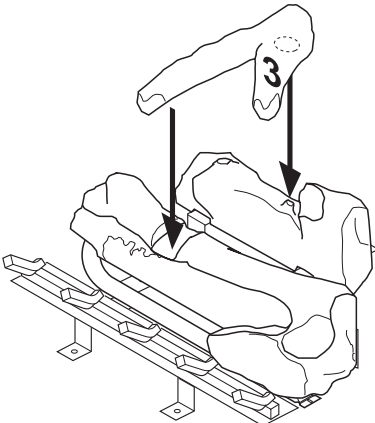

Figure 41 - Installing Log No. 3
4. Place log #3 (crossover log) onto rear and front logs. Make sure it is seated properly into notch on front log and over the raised triangular portion of rear log as shown in Figure 41, page 25.